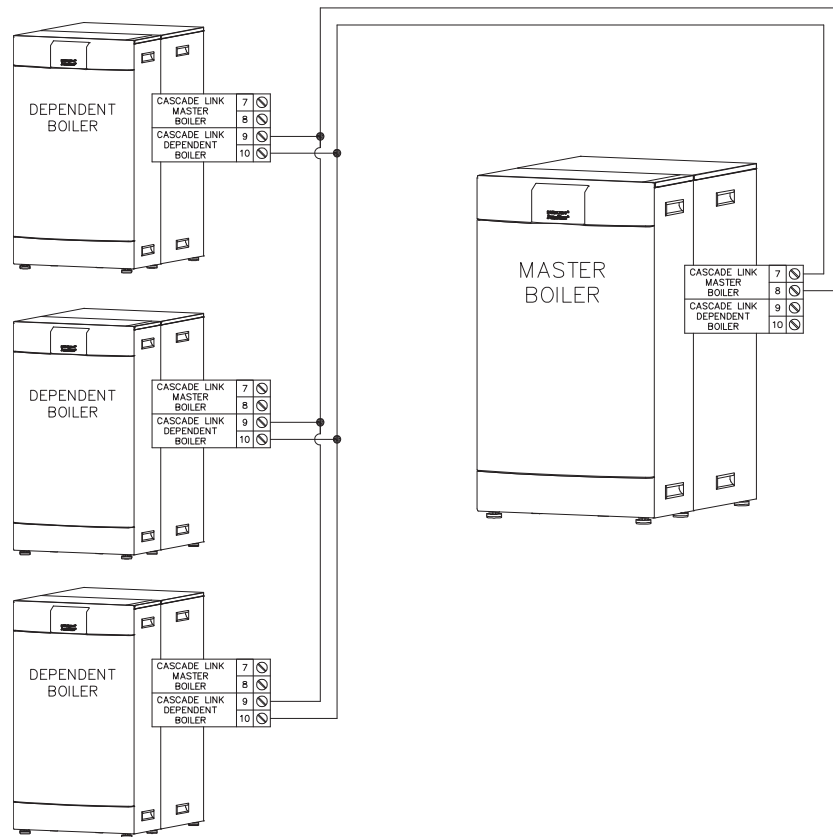

Figure 8.53: Multiple Boiler Wiring – Daisy Chain Configuration
- a. Figure 8.53 shows a daisy chain configuration. This method is convenient but can lead to more than one boiler shutting down in the case of an open circuit.